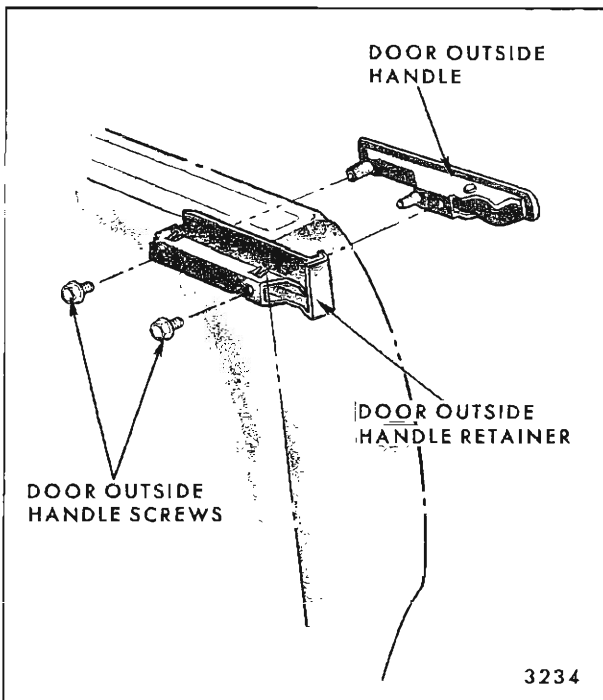
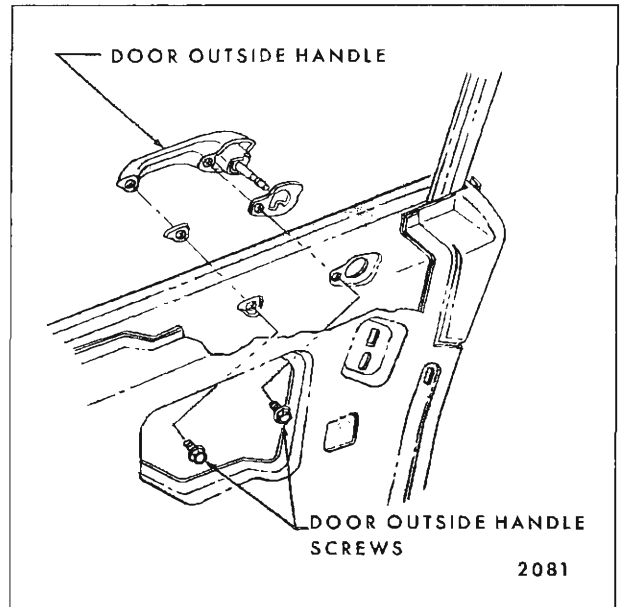

Fig. 6-20—Door Outside Handle Removal - "G" Styles
Fig. 6-21—Door Outside Handle Removal - All Styles Except "G" Styles
1. Raise door window. Remove door trim assembly and detach upper rear corner of inner panel water deflector sufficiently to gain access to door outside handle attaching screws (Refer to Fig. 6-20 for "G" styles and Fig. 6-21 for all other styles).